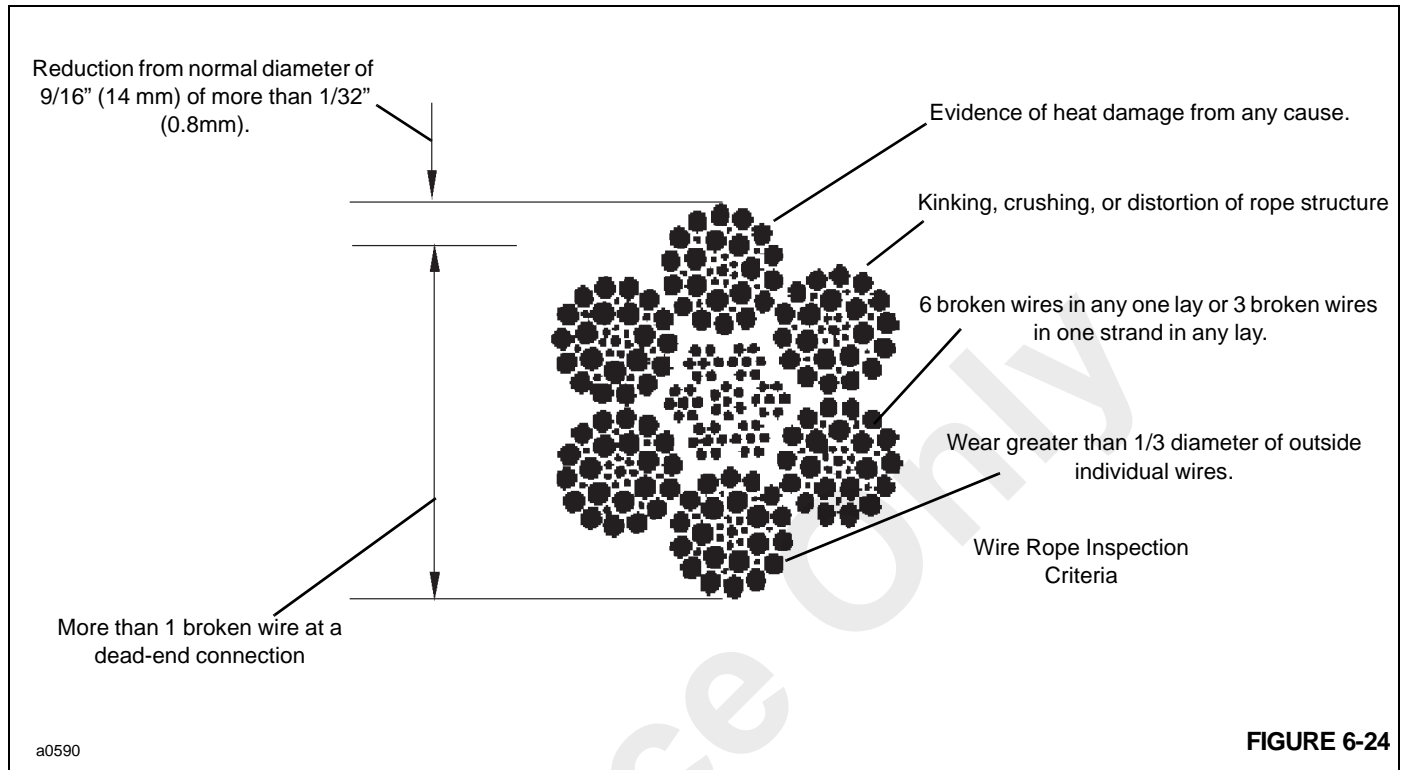

FIGURE 6-24
1. Wire Rope - Inspect for damage, rust or wear to the wire rope. Keep a record of each inspection. Replace the wire rope if any of the conditions in Figure 6-24 are present.